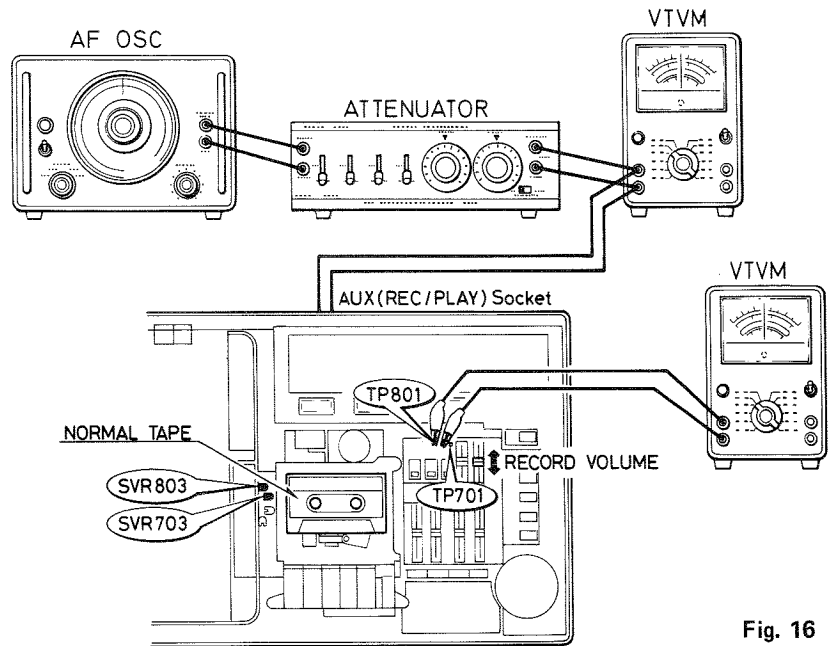

Fig. 16
3. Apply 1 kHz –10dB (100mV) signals to the unit at the AUX terminal from the AF oscillator via the attenuator. Set the unit in the recording mode. (Fig. 16)